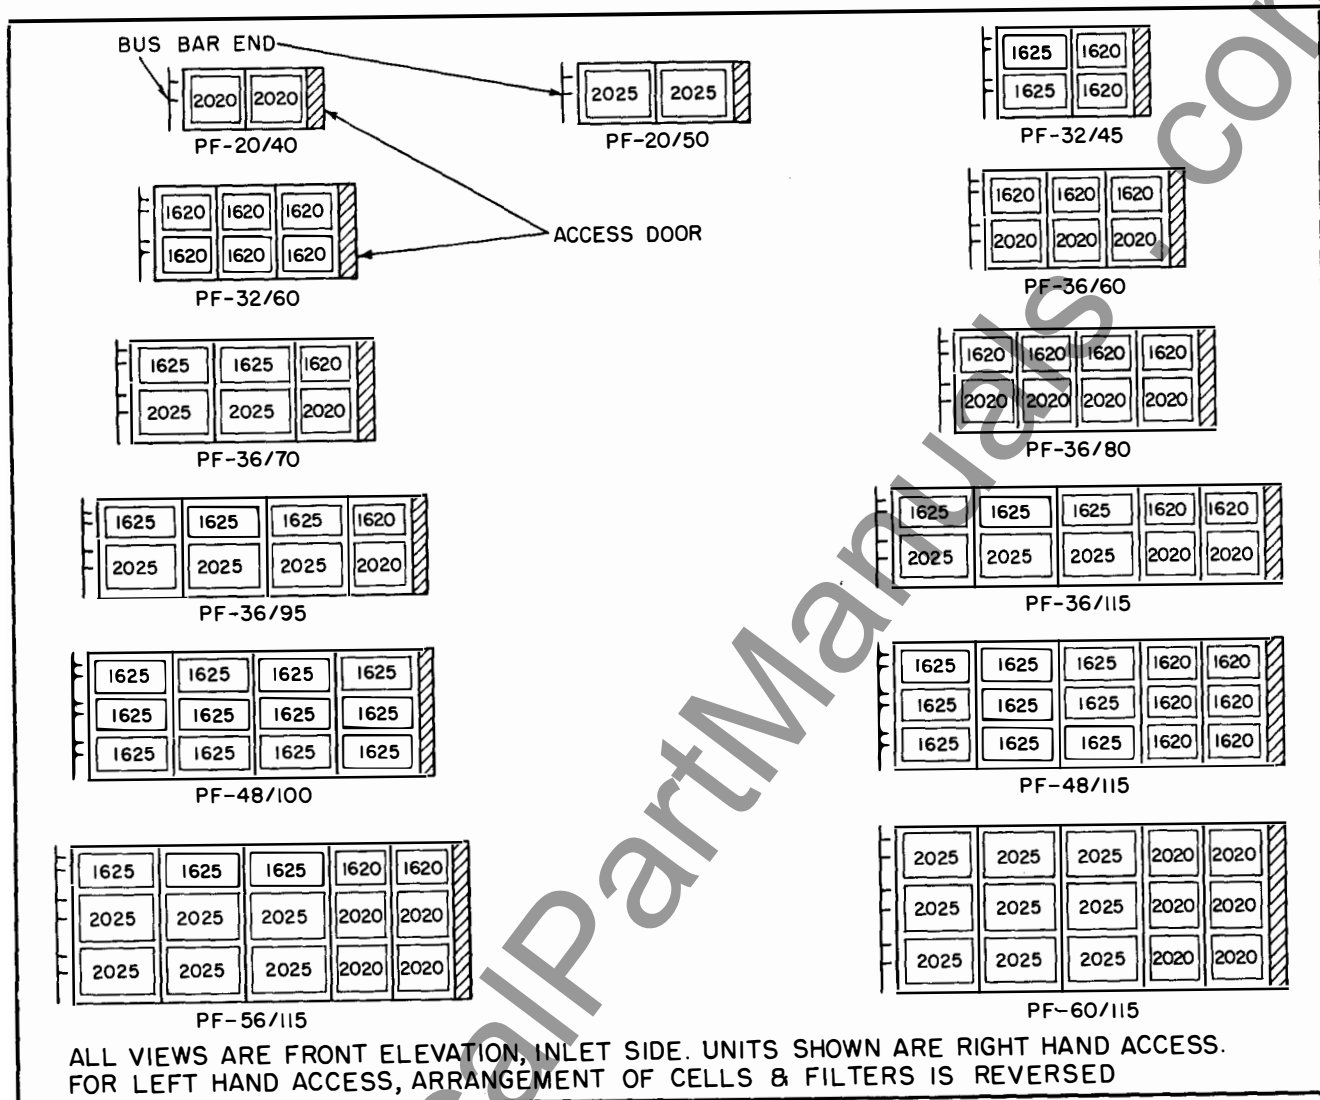
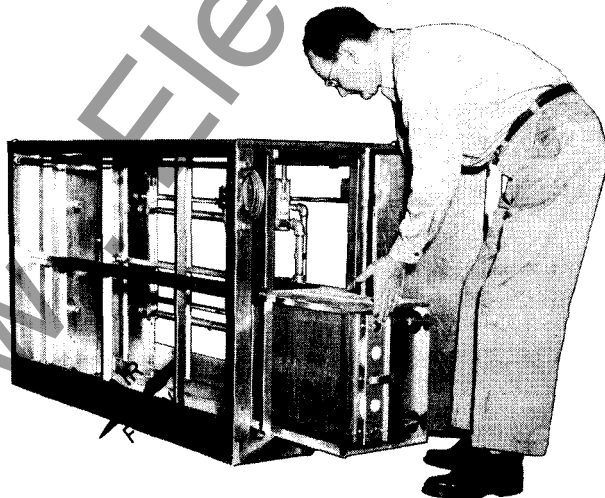

Fig. 7 Location of Cells and After-Filters Inside Cabinets
Figure 12. Installing Collector Cells
It is essential that the cells be loaded in the cabinet precisely as shown in Fig. 7. Failure to obtain proper alignment of the spring contacts will result in "dead" cells with zero cleaning efficiency.
Open the access door and slide cells into framework on their tracks. See Fig. 12. Push the cells in carefully as far as they will go, maintaining correct order of sizes as shown in Fig. 7. Be sure that the end cells (those farthest in from door) make proper contact with the high voltage bus bars on inner end sheet of cabinet. Adjustable cell stop
**After-Filter Maintenance.** If the after-filters appear excessively dirty, they should be removed and hosed off with hot water. Be sure to replace the filters in their original order. See Figs. 7 & 15.
(1) Before washing apply one adhesive cycle and allow to soak about 20 minutes. Thoroughly wash off with several cycles of water. Allow to dry and repeat if necessary.
(2) If the above adhesive soaking method fails to clean the parts, make a solution of about one pound of mild detergent ("ALL" or equal) to each gallon of 100 to 120 F. water. Apply this solution to the dirty components and allow to soak 10 to 20 minutes. Thoroughly flush with 160 to 180 F. water. Repeat if necessary to get parts metal clean. It is best to apply the detergent with a separate spray gun. The solution may also be applied through the adhesive pump and header nozzles, but the system must be flushed with hot water and thoroughly dried before adhesive is used again, being sure to replace or dry out the adhesive filter cartridge. Drying is important.